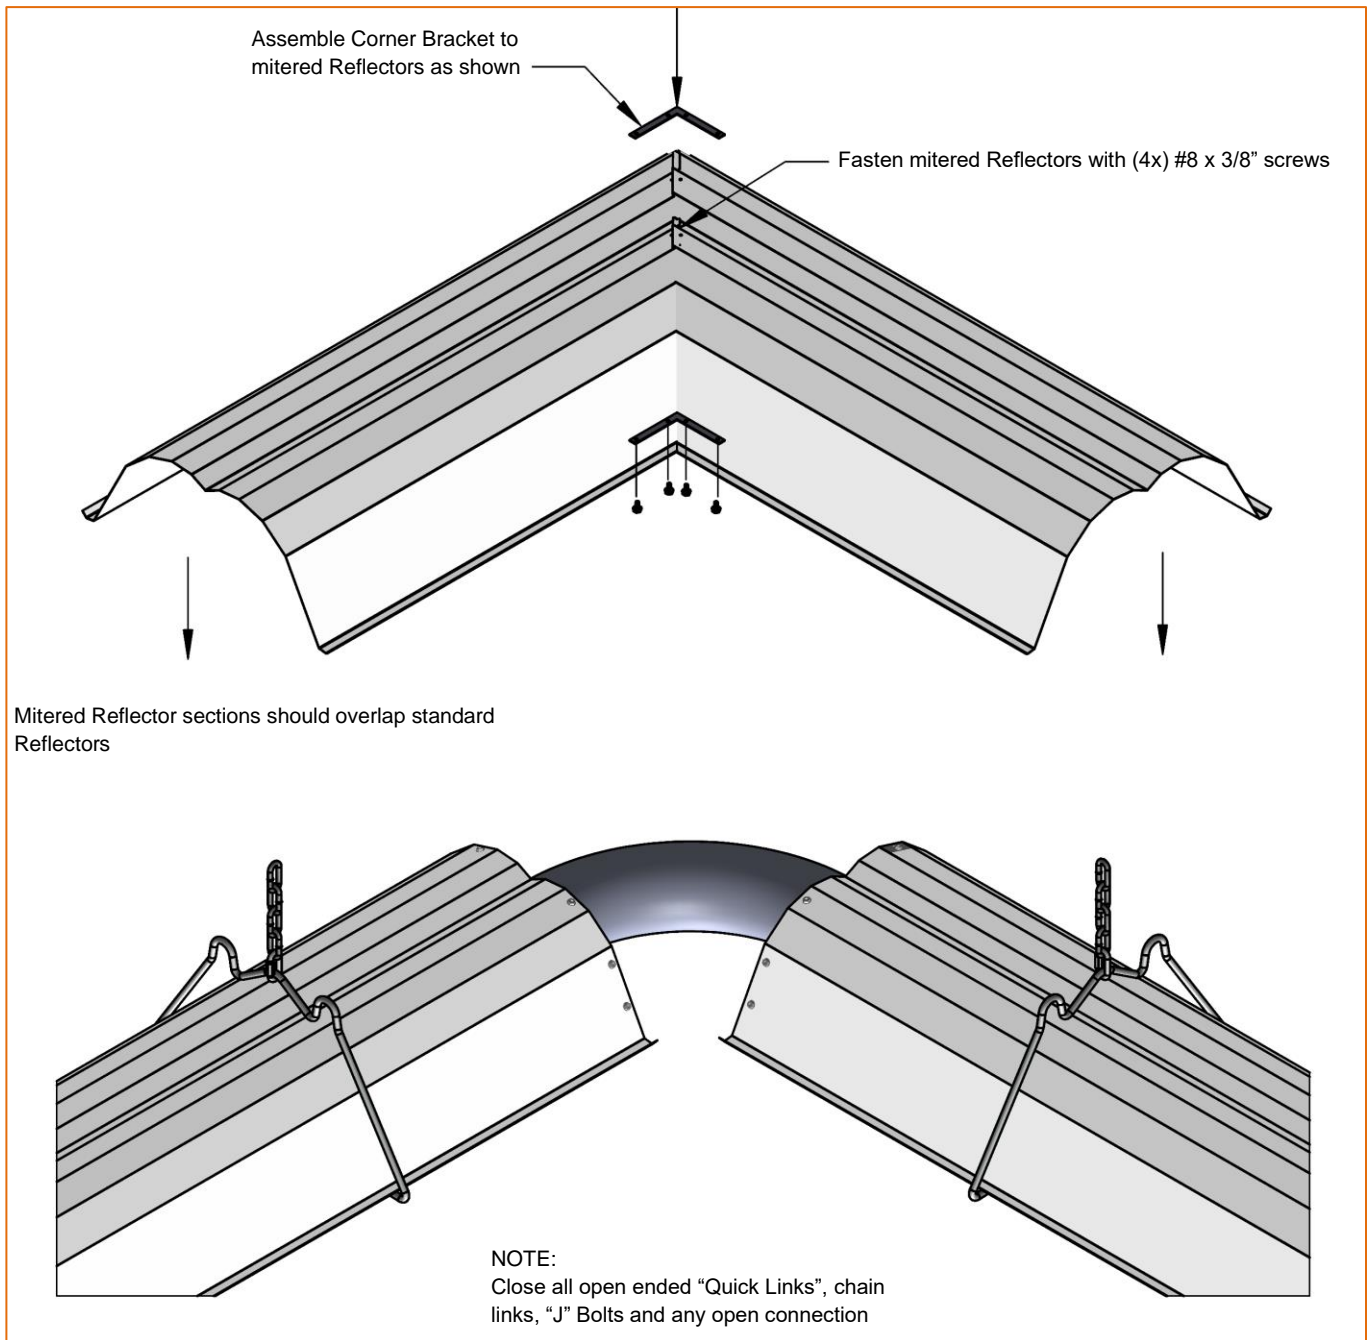

Figure 25: Optional - Corner (Mitered) Reflectors
*When using the optional Corner/Mitered Reflectors refer to Figure 25 in Section E - Optional Shield Equipment, for details on how to assemble Reflectors sections instead of installing End Caps.
Corner/Mitered Reflector Kits are used above elbow locations instead of stopping and restarting a Reflector run to accommodate the elbow. Secure the Mitered Reflectors together using the Two (2) Corner Brackets as shown in Figure 25. Also insert #8 x 3/8" screws at each 'tab' location along the top of the Reflectors.